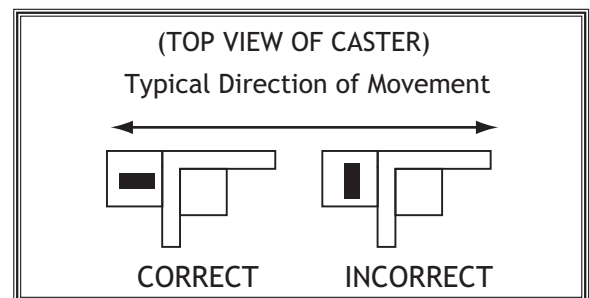

Figure 11. Mounting casters based upon typical direction of movement.
3. Orient the fixed casters so they point in the same direction that your machine will typically be moved (see **Figure 11**). Mounting the fixed casters in the wrong direction will make it difficult to move your mobile base.